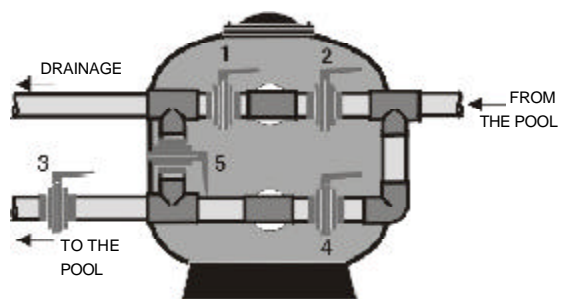

FIG.13
8.2. BATTERIES WITH 5 VALVES (FIG.13)